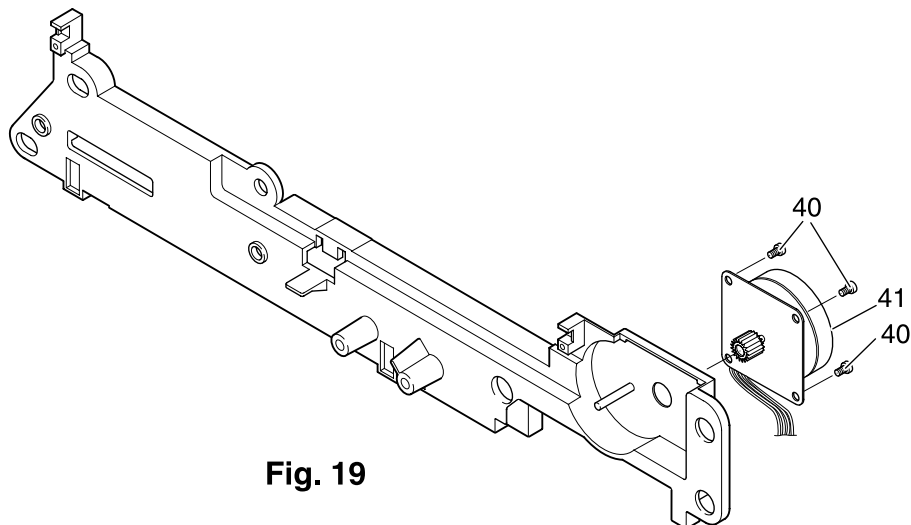

**Fig. 19**
10. Unscrew the three Torx screws 40 (Fig. 19).